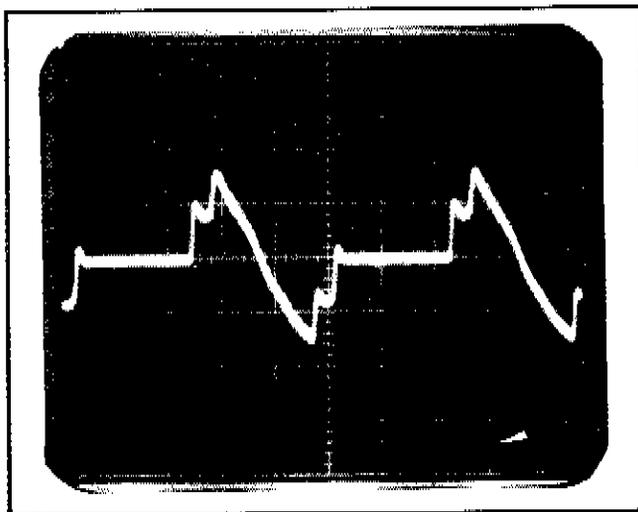

Figure 4-8. LED Loop Current Waveform
- Adjust C162 LED LOOP BANDWIDTH so that the current channel waveform is 30 mA p-p between the positive and negative peaks. The waveform should appear as shown in Figure 4-8.